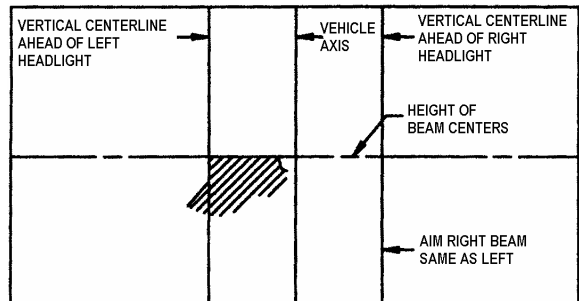

FIGURE 36: HIGH-INTENSITY ZONE (SHADED AREA) OF A PROPERLY AIMED LOWER BEAM ON THE AIMING SCREEN 7.6 M (25 FT) IN FRONT OF VEHICLE
6. Low beam headlights are aimed so that the top edge (the cutoff) of the high-intensity zone is at the vertical location as per Table 1 and the left edge of the high-intensity zone is at the vertical centerline of the headlight (Fig. 36).